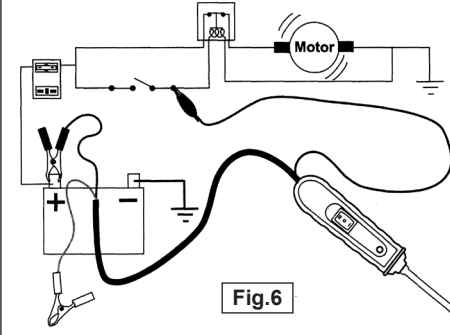

Fig.6
3.7 JUMPER LEAD FEATURE (See Fig.6).